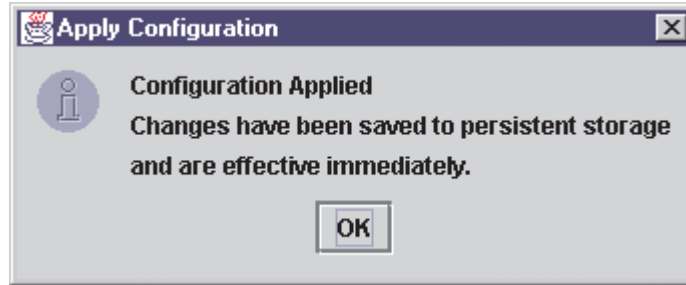

Figure 94. Apply Configuration dialog window
- Click **Apply** to apply the new configuration. The new configuration is saved to the persistent configuration file; it will be used the next time you start the system. The new configuration remains in memory and displays after the apply operation completes. If configuration is successful, the message shown in Figure 94 on page 243 displays. Click **OK**.